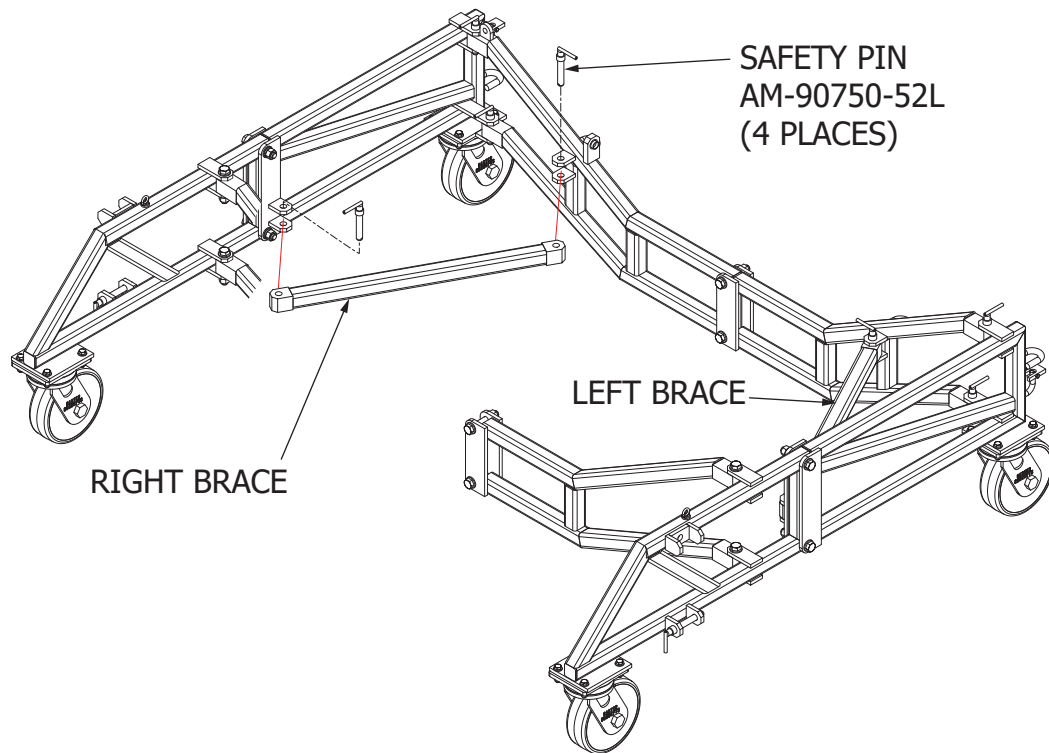

Figure 5.1-5 FWD & AFT Frame Assembly
- 6) Attach left and right braces with safety pin assemblies. See Figure 5.1-5.
- 8) Attach AFT arm to AFT frame assembly. Place spacers on both sides of bearing, and insert safety pin assembly through arm and spacers. See Figure 5.1-5.